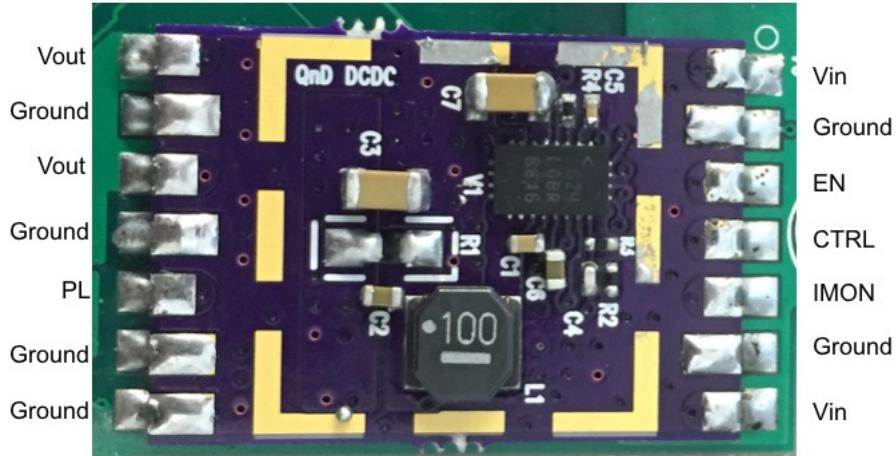

Figure 7: Photo of the DCDC converter with labeled inputs and outputs.
- Test the output of the 5V DCDC converter with a multimeter. It should register +5V. The output of the DCDC converter is labeled “Vout” in figure 7.